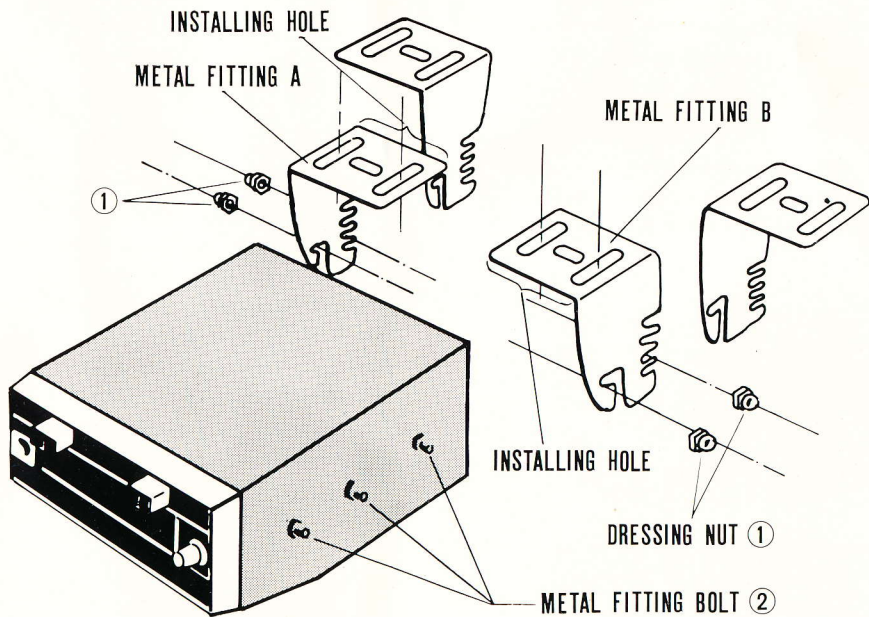

Fig. 1
1. Remove the four dressing nuts ① from the sides of the set.
2. Fix metal fittings A and B to where the set is to be installed and tighten temporarily with accessory bolts and nuts. Metal fittings A and B can be fixed inner or outer direction against the set. (See Fig. 1)
Use the two attached metal fittings shown (Fig. 1) with attached screws and nuts when installing the car stereo tape player in an automobile. These auxiliary fixtures can be properly bent to fit contour of area. (Fig. 6)